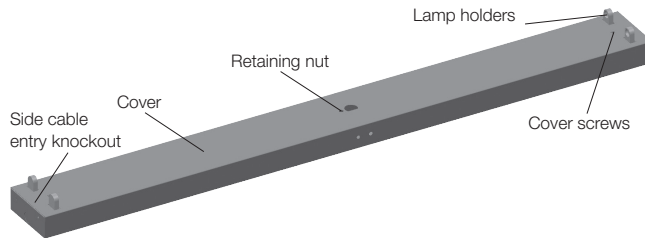

Figure 1
3. Undo the centre retaining nut (where fitted) and the 2 cover screws as shown in figure 1 and remove the cover.
9. Re-install the cover and secure it to the base with the centre retaining nut (where fitted) and the 2 cover screws as shown in figure 1.
3. Undo the centre retaining nut (if fitted) and the 2 screws and remove the cover as shown in figure 1.